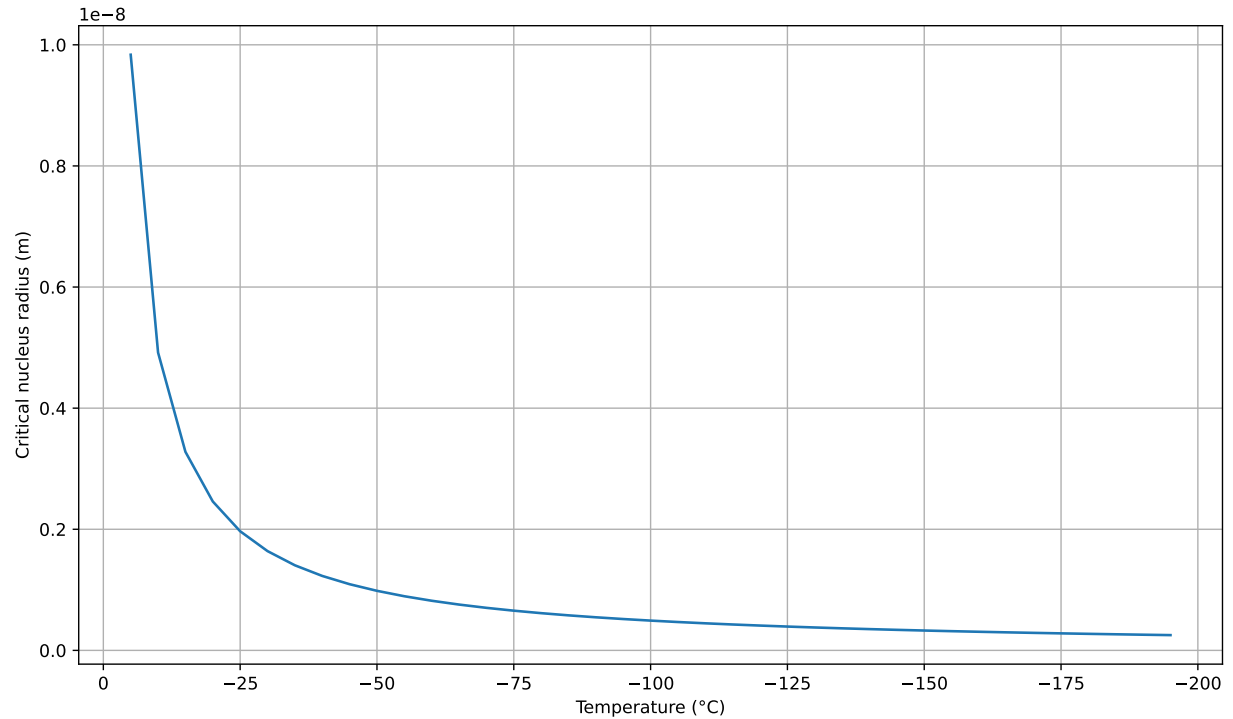

Figure 2: Critical nucleus radius as a function of temperature for water cooled from  $-5$  to  $-200^{\circ}\text{C}$ .
To visualize the changes of the radius with further cooling water, the critical radius was calculated for different temperatures, with a range of cooling temperatures of  $-5$  to  $-200^{\circ}\text{C}$ , using equation (13). The results were plotted in a graph, which is shown in figure 2: